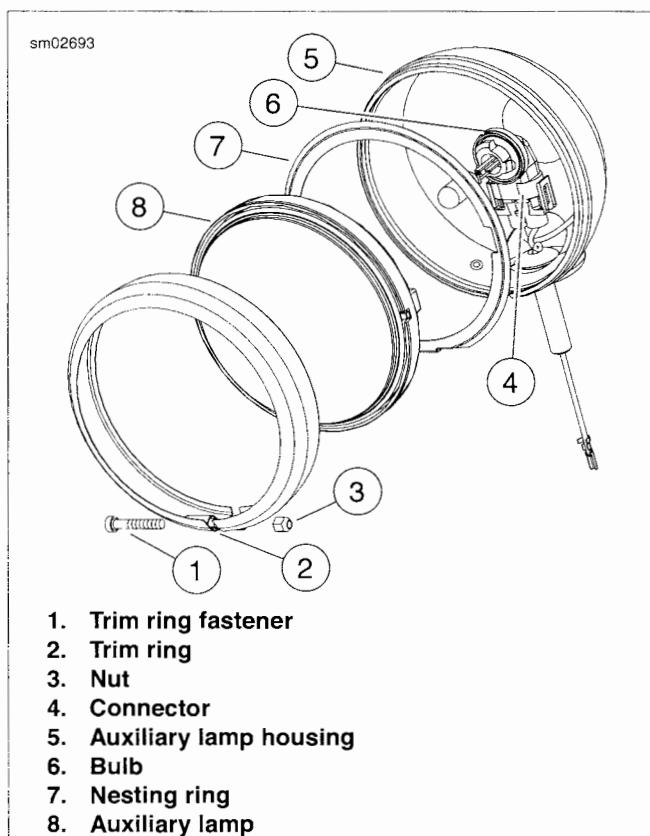

Figure 7-40. Auxiliary Lamp Bulb: Typical
1. See Figure 7-40. Loosen trim ring fastener (1) as required to pull trim ring (2) from lip of auxiliary lamp housing (5).
2. Disconnect auxiliary lamp connector (4) from bulb (6).
3. Remove nesting ring (7) at back of auxiliary lamp (8).
2. See Figure 7-40. Place nesting ring (7) at back of auxiliary lamp (8) with the concave side up.
3. Connect auxiliary lamp connector (4) to bulb (6).
4. Place nesting ring over edge of lamp housing (5). Rotate nesting ring until index tab engages slot at bottom of lamp housing.
6. Install trim ring (2) over lip of lamp housing. Rotate trim ring so that fastener (1) is centered at bottom, and then tighten fastener until snug.